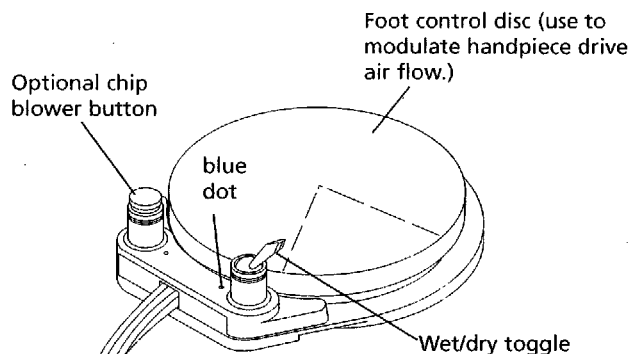

Figure 26. Foot Control
The foot control (see Figure 26) modulates drive air to the active handpiece and provides air signal that activates the coolant air and coolant water flow. The foot control is operated by light foot pressure applied to any part of the foot control disc.
Wet/Dry Toggle (see Figure 26) allows you to shut off coolant water to the handpieces without moving your hands from the oral cavity. Using your foot, move the toggle away from the blue dot to turn coolant water off. Move the toggle toward the blue dot to turn coolant water on.
Optional Chip Blower Button (see Figure 26) sends a jet of air through the handpiece when it is not running.
3. Move the wet/dry toggle on the foot control to the OFF position, away from the blue dot (see Figure 26).
3. Move the wet/dry toggle on the foot control to the On position, toward the blue dot (see Figure 26).